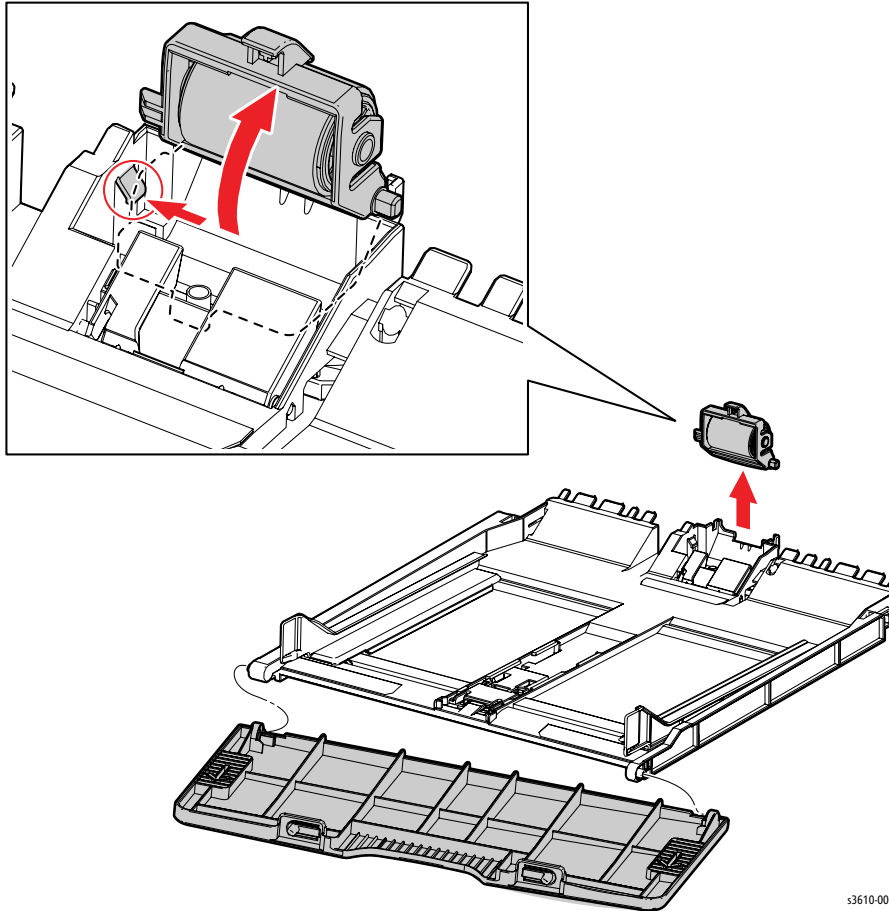

Figure 1
2. Release the clip that secures the Retard Roller Assembly to the Bypass Tray, then remove the assembly by rotating it in the direction of the arrow. (Figure 1)